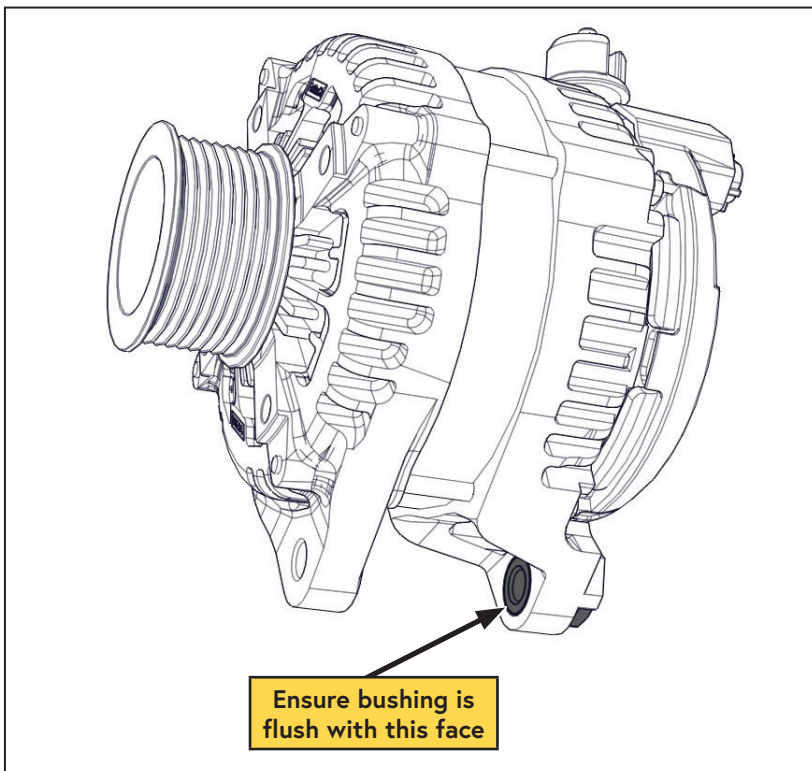

Figure 45 — Reset alternator slide bushing
- ☐ Ensure the alternator slide bushing is flush with the inside face of the alternator mount (Figure 45).